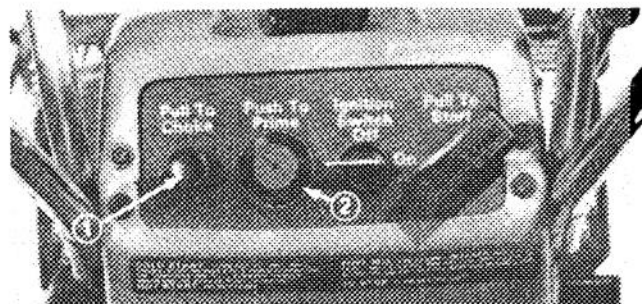

Figure 6
2. Pull choke out (Fig. 6).
3. Put thumb on center of primer so hole is covered and sealed (Fig. 6). Depending upon temperature at which the machine is stored, push the primer one to two times. For temperatures above 0°F (-18°C) use one prime and below 0°F (-18°C), use two primes. In colder conditions more primes may be necessary.
4. Turn ignition key to ON (Fig. 6).
5. To start S140 Recoil Start, put one hand on the lower handle to steady the snowthrower. Next, grasp recoil starter handle (Fig. 6) and pull vigorously to start engine. If engine does not start after four pulls, prime engine again as described and pull recoil starter handle four more times. Repeat this procedure until engine starts.
1. Turn ignition key to OFF (Fig. 6).